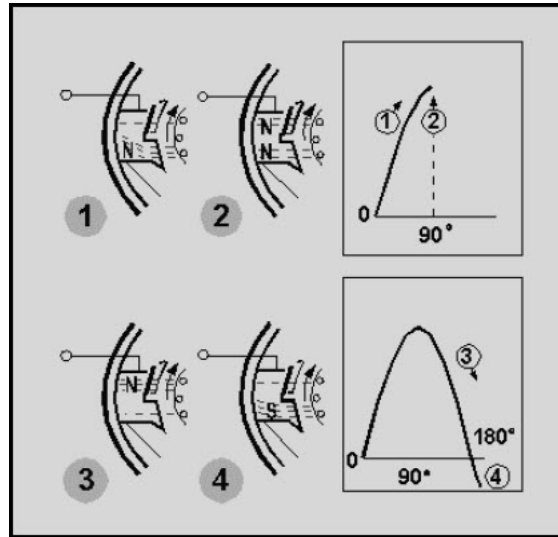

Figure 4-13 Shaded poles as used in shaded-pole ac induction motors
The shaded-pole induction motor is another single-phase motor. It uses a unique method to start the rotor turning. The effect of a moving magnetic field is produced by constructing the stator in a special way. This motor has projecting pole pieces just like some dc motors. In addition, portions of the pole piece surfaces are surrounded by a copper strap called a shading coil. A pole piece with the strap in place is shown in figure 4-13. The strap causes the field to move back and forth across the face of the pole piece. Note the numbered sequence and points on the magnetization curve in the figure. As the alternating stator field starts increasing from zero (1), the lines of force expand across the face of the pole piece and cut through the strap. A voltage is induced in the strap. The current that results generates a field that opposes the cutting action (and decreases the strength) of the main field. This produces the following actions: As the field increases from zero to a maximum at 90° , a large portion of the magnetic lines of force are concentrated in the unshaded portion of the pole (1). At 90° the field reaches its maximum value. Since the lines of force have stopped expanding, no emf is induced in the strap, and no opposing magnetic field is generated. As a result, the main field is uniformly distributed across the pole (2). From 90° to 180° , the main field starts decreasing or collapsing inward. The field generated in the strap opposes the collapsing field. The effect is to concentrate the lines of force in the shaded portion of the pole face (3). You can see that from 0° to 180° , the main field has shifted across the pole face from the unshaded to the shaded portion. From 180° to 360° , the main field goes through the same change as it did from 0° to 180° ; however, it is now in the opposite direction (4). The direction of the field does not affect the way the shaded pole works. The motion of the field is the same during the second half-cycle as it was during the first half of the cycle.